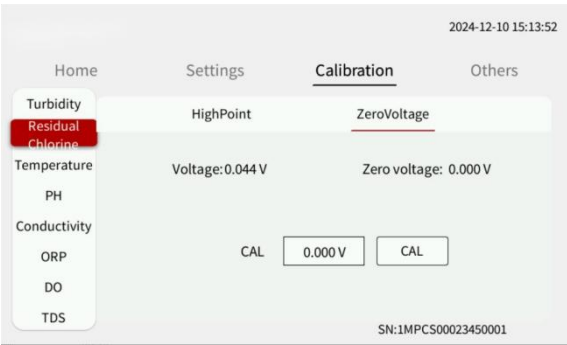

Fig.8 Display of Zero Calibration
- 3) In the zero calibration interface, input the voltage of chlorine-free water measured by the sensor, and click Calibrate, as shown in Fig.8.